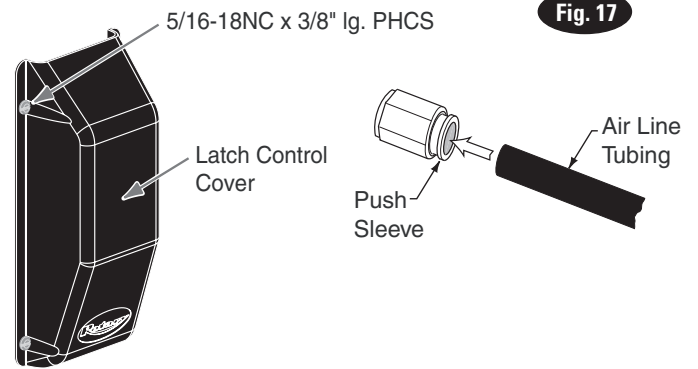

Fig. 17
- E)** Install latch covers with 5/16"-18NC x 3/8" lg. PHCS, Fig. 17.